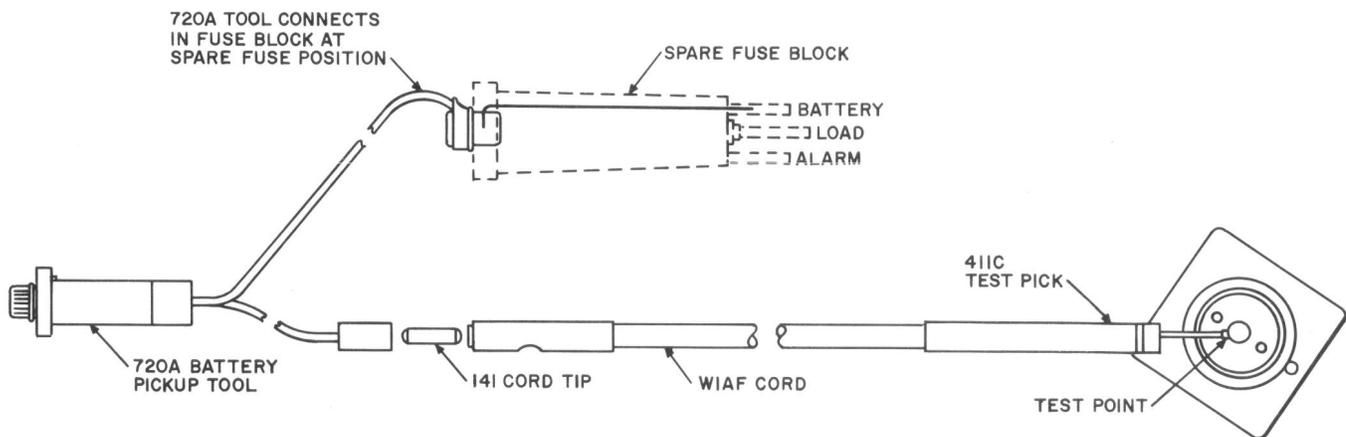

Fig. 6—Fuse Alarm Testing Cord—Tool Connection
- (1) Prepare the alarm test cord by connecting one end of the W1AY testing cord to the 141 cord tip and 720A voltage pickup tool. (The KS-6278 connecting clip may be used to replace the 720A voltage pickup tool.) On the opposite end of the W1AY testing cord, connect the 411C test pick (see Fig. 6).
- (2) Install the 720A voltage pickup tool in a spare 70-type fuse position. (If the 720A tool is not available, obtain the same magnitude voltage supply by connecting a KS-6278 connecting clip with the W1AY test cord to the ungrounded bus bar.)
- (3) With the tip of the 411C test pick (attached to the battery connected W1AY cord), touch the exposed alarm test point on the fuse cap for one fuse.